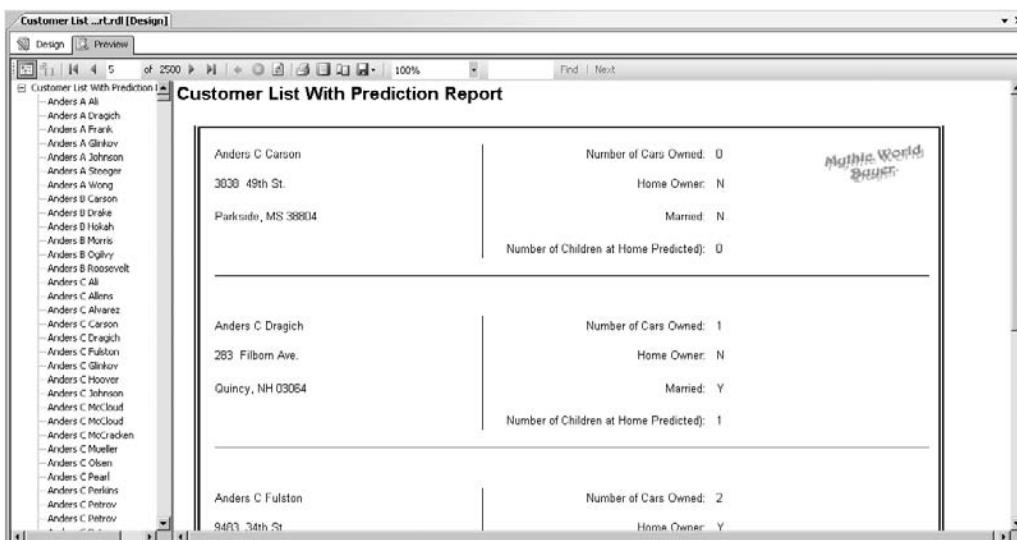

Figure 16-42 A page of the completed Customer List With Prediction Report
84. Select the Preview tab. The Document Map appears on the left. Expand the Customer List With Prediction Report entry. Click the entry for Anders C Carson in the document map. This takes us to the entry for Anders C Carson in the report. Note, the Mythic World Buyer graphic appears when the number of children at home is predicted to be 0. This page of the report appears as shown in Figure 16-42.